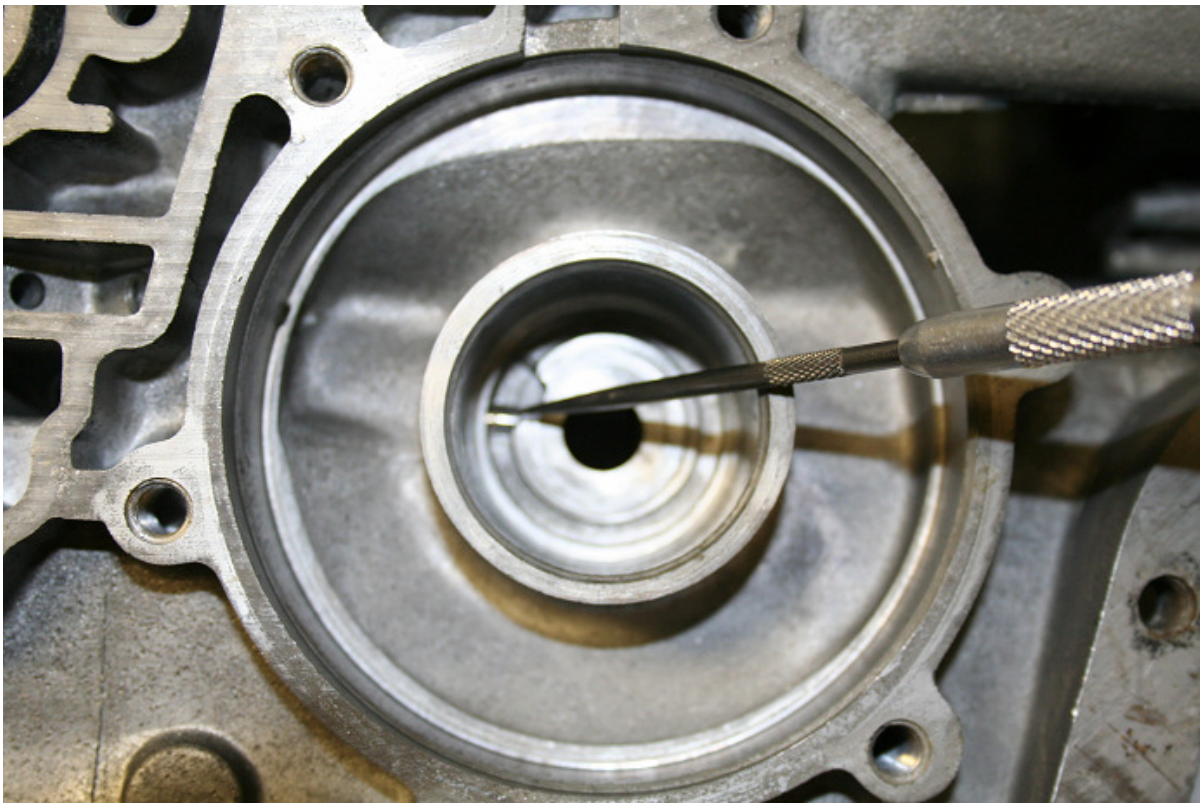

Figure 3
12. Use blunt drift to install stock T400 1/4" steel check ball into accumulator feed passage in case, as shown in figure 3. **DO NOT install checkballs in stock locations in case.**